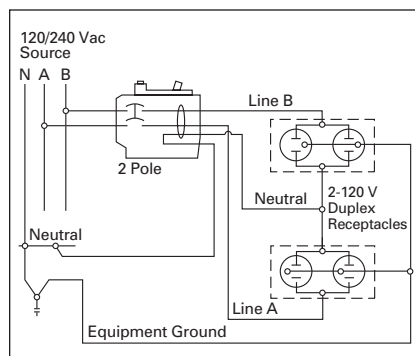
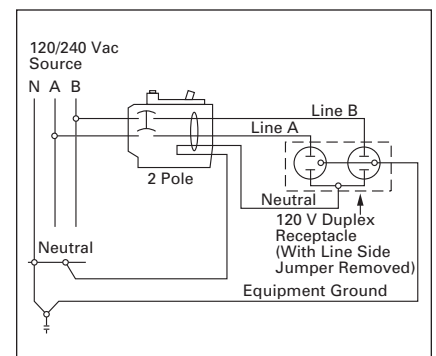

Figure 3-18. 2-Pole Shared Neutral with Multi-Duplex Receptacle Application
Figure 3-20. 2-Pole Shared Neutral with Duplex Receptacle Application
- ③ Independent trip refers to 2-pole multi-wire, home run or shared neutral circuits (see **Figure 3-18** and **Figure 3-20**).